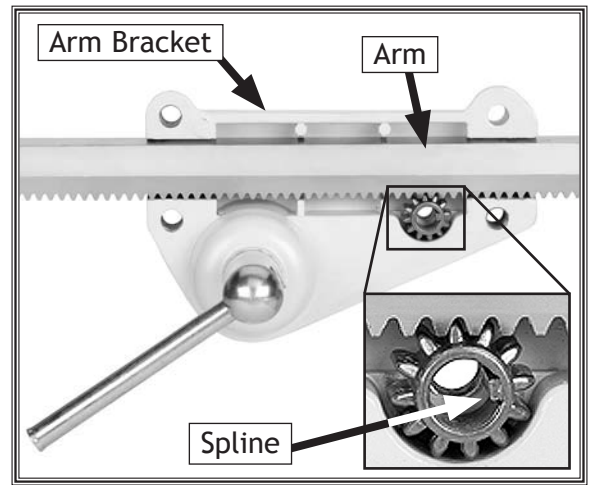

Figure 8. Arm bracket gearing.
- Place the arm into the arm bracket so the teeth of the gear and arm mesh as shown in **Figure 8**.
- Insert the horizontal crank completely so it engages the spline (**Figure 8**) in the gear.